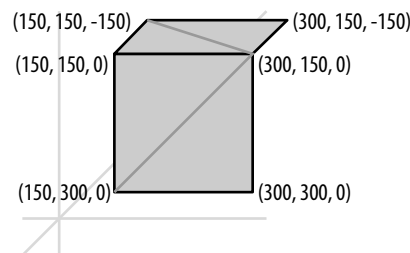

Figure 5-3. Dividing each face on the surface of a cube up into triangles so that we can draw them with Modelbuilder.
For now though, we'll start simple. We'll start by initializing our model using Modelbuilder's main class for representing shapes: `UGeometry`. Then, we'll start to create the faces of our cube. We'll break each face down into two triangles. As I explained at the start of this chapter, triangles are the basic atomic unit of 3D geometry and they're what we'll use to connect all of the depth point from the Kinect into a single smooth surface. Figure 5-3 illustrates the idea and shows some example coordinates for two sides of a 150 pixel cube. As you can see in the figure, we break each of these sides down into two triangles. Each triangle connects three of the four points that make up the side. The result is that each point ends up being part of multiple triangles.
- ❶. Our work with Modelbuilder starts at the top of the sketch where we import the library and declare our `UGeometry` object. Modelbuilder comes in two parts: `unlekker.util` and `unlekker.modelbuilder`. We need both of them to create our geometry and save our STL file. As I mentioned above, `UGeometry` is Modelbuilder's chief class for describing 3D shapes. We'll be calling methods on this `model` object throughout the sketch.
- ❷. Unlike most of the sketches in this book, this one does most of its work inside of its `setup` function. Since our geometry is not changing, we only need to create it once when the sketch starts up. Therefore, all of our code that adds triangles to our `model` object goes into `setup` instead of `draw`. Once we've created our geometry, in `draw` we'll just focus on displaying the model, including the rotations and translations necessary to get it to spin in place.
- ③. In `setup` we start by initializing our `model` as a new `UGeometry` object. With that out of the way, we're almost ready to start creating our cube.
- ④. First, though, we've got to tell Modelbuilder what shape our faces are going to be. This is just like when we displayed a 3D model using `OBJLoader` back in Chapter 3. We had to tell `OBJLoader` what kind of geometrical primitives it should use to display the model. The options were: `POINTS`, `LINES`, `TRIANGLES`, `QUADS`, `POLYGON`, `TRIANGLE_STRIP`, or `QUAD_STRIP`. These same options are available to us now. We could define our geometry using any of these. We've chosen `TRIANGLES`. Therefore, we kick off the modeling process by calling `model.beginShape(TRIANGLES)`. This tells our `model` that we're going to start adding geometry to it and that this geometry will take the form of triangles.
- ⑤. After we call `beginShape`, our `model` is ready to receive triangles. We'll build up our model using its `addFace` function. This function takes three points to define the triangle we want to add to the model. When we're talking about creating a 3D mesh, we call these points "vertices" because they exist at the intersection of multiple shapes. Each of our triangles is connected to others: they share vertices in common. We saw this illustrated in Figure 5-3 where each triangle shared at least two of its points in common with others. This sharing of vertices is what turns our set of points into a continuous surface and, eventually, a solid object.